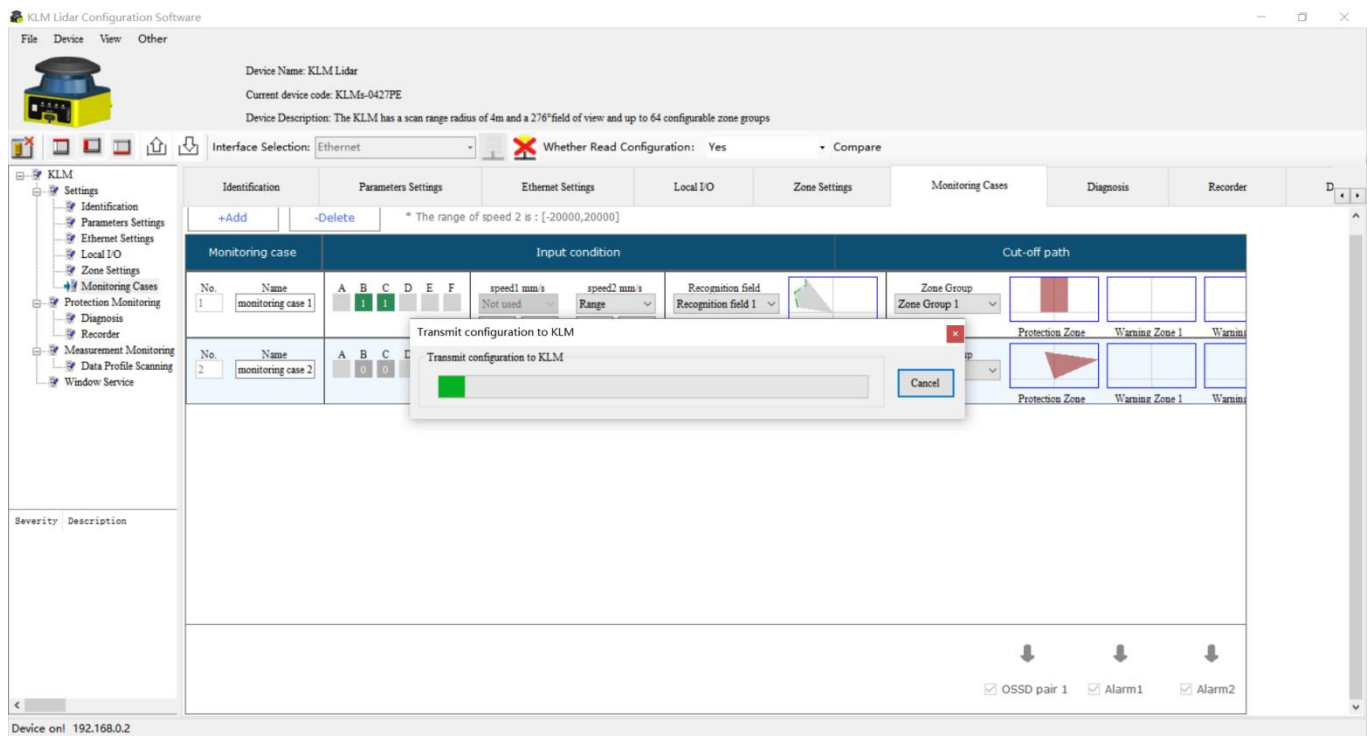

Fig.3.2.12 Transfer the configuration to lidar
(1)Click the toolbar (transfer configuration to device) to transfer the configuration to lidar. The pop-up window is shown in Fig.3.2.12. During transmission, the digital tube of the lidar indicator window displays.